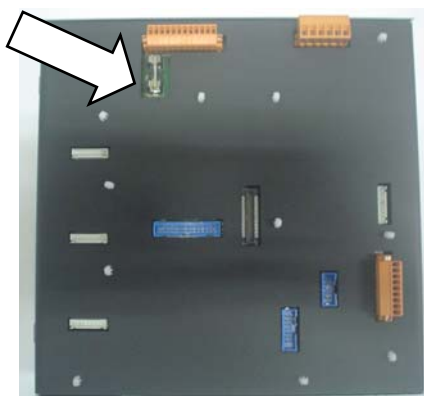

Fig.42
2. Remove the fuse from the control board and check whether it has blown, if so, replace it with an identical fuse: T4A 250V (Fig.42)